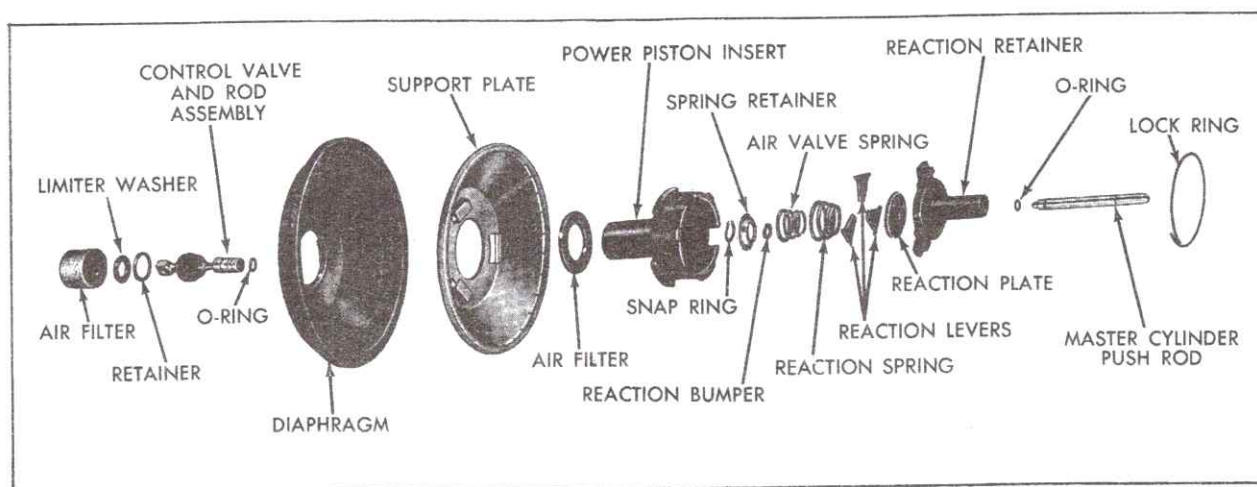

Fig. 5-15 Delco Moraine Power Piston Disassembled
### 17. Delco Moraine Power Head Disassembly, Cleaning, Inspection and Assembly, Fig. 5-15
15. Remove reaction plate, three reaction levers, reaction spring, air valve spring, reaction bumper and air valve spring retainer from power piston insert, Fig. 5-15.